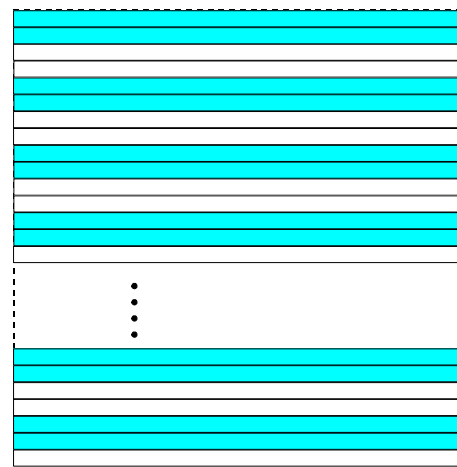

Fig. 105: Decimation of 2 (Color Cameras)
- 2 for color cameras: only every second pair of rows of the acquired frame will be transmitted out of the camera (Figure 105).